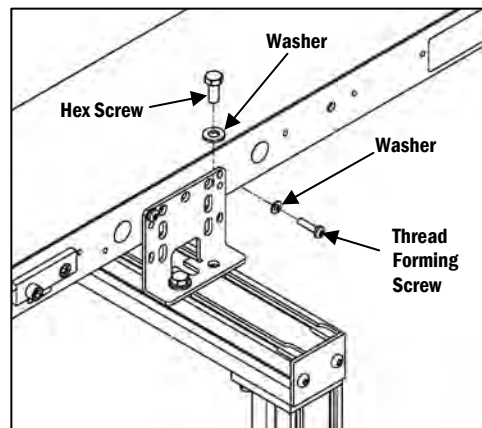

Figure 5
b. Place the Mount over the Square Nuts, and thread a 5/16-18 x 3/4" Hex Head Screw with 5/16" Flat Washer through the mount and into the Square Nut (**Figure 5**). Leave the assembly slightly loose for adjustment in the next step.